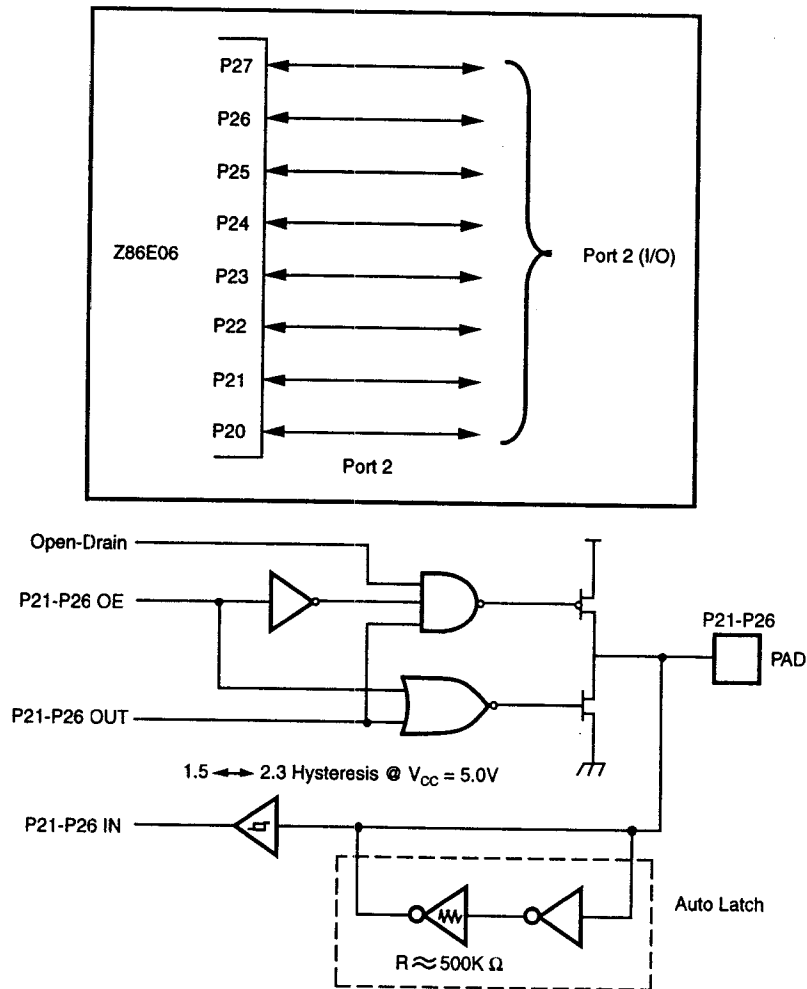

Figure 4a. Port 2 Configuration (Z86E06)
Port 2 (P27-P20). Port 2 is an 8-bit, bidirectional, CMOS compatible I/O port. These eight I/O lines can be configured under software control to be an input or output, independently. Input buffers are Schmitt-triggered and contain Auto Latches. Bits programmed as outputs may be globally programmed as either push-pull or open-drain (Figure 4a., 4b., and 4c.). Low EMI output buffers can be globally programmed by the software. In addition, when the SPI is enabled, P20 functions as data-in (DI), and P27 functions as data-out (DO) for the SPI (SPI on the Z86E06 only).